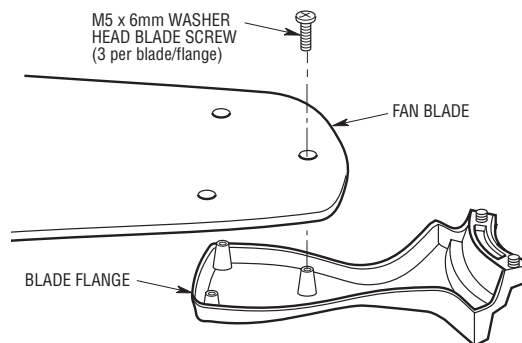

Figure 2
2. Mount blade flanges to fan blades using three M5 x 6mm washer head blade screws (Figure 2).